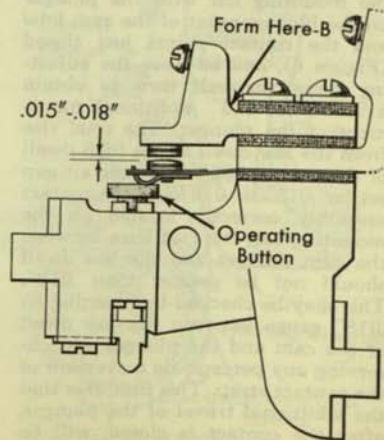

Figure 4. Plunger Circuit Breaker Adjustment 2
2. The upper contact support should be formed at point B (Figure 4) to provide a $.015''$ to $.018''$ clearance between the upper contact and the lower contact when in its normal position resting on the plunger. Before the upper contact is bent, the operating button is installed which gives the closest starting clearance. The white button 205740 is standard; the red button 186882 is $.015''$ shorter.